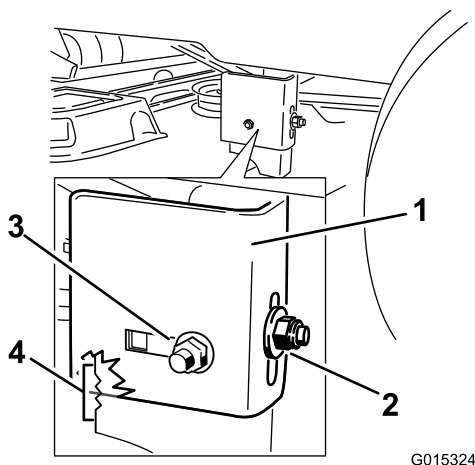

Figure 51
13. Stop the deck at the adjusted position and tighten the rear locking nut on the hanger bracket to hold the new position (Figure 51).